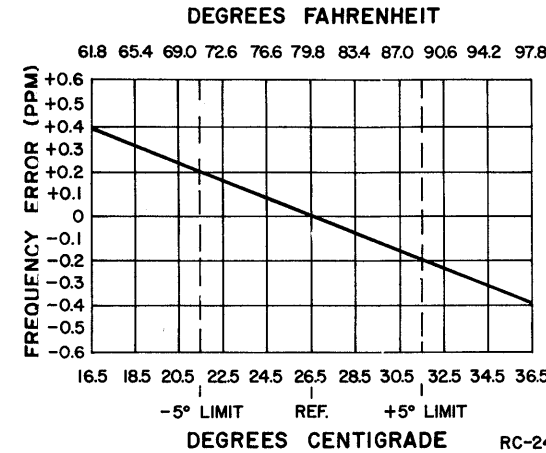

Figure 7 - Frequency Characteristics Vs. Temperature
- Maintain the radio at 26.5°C (±10°C) and offset the oscillator, as a function of actual temperature, by the amount shown in Figure 7.
- To hold setting error to ±0.35 PPM (which is considered reasonable for 2 PPM ICOMs): Maintain unit at 26.5°C (±5°C) and offset the oscillator as a function of actual temperature, by the amount shown in Figure 7.